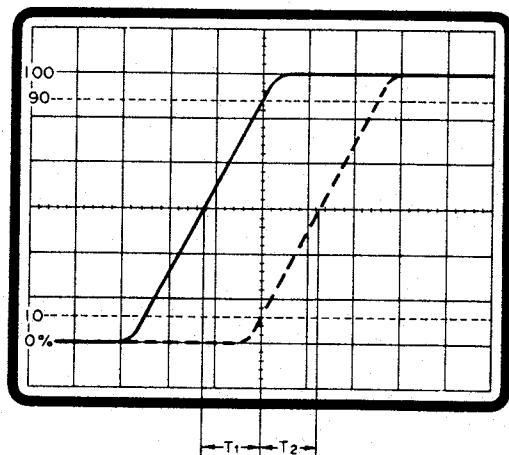

Fig. 15
1. With a pulse signal applied to the input terminal, adjust VOLTS/DIV (4) [9] and VARIABLE (5) [10] so that the pulse amplitude is set to the 0 and 100% scales (Fig. 15).